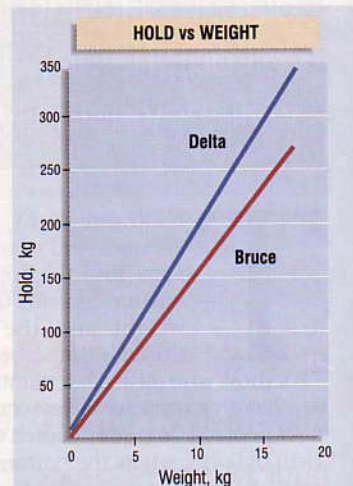

FIGURE 2 Holding power was proportional to weight at a scope of five for these anchors
■ The weight of an anchor required for a given yacht obviously depends upon its size. But the question of just how the two should be related is unclear. I was able to test how anchor holding depended upon the weight using the roll-stable claw and Delta which I had available in a range of weights from 1 to 16 kg. The results are shown in Figure 2. The anchors were pulled at a scope of five. The weights used for plotting the data are their true ones rather than those quoted by the manufacturers. Within the limits of error, the holding power at a scope of five is proportional to the weight for these types of anchor.